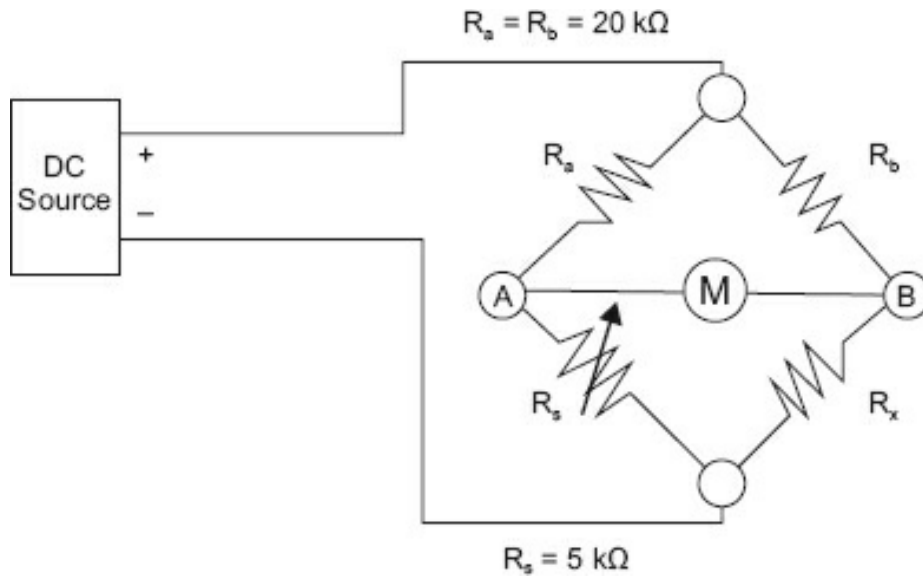

Figure R4-1.
- Using Figure R4-1, fill in the blanks for questions A, B, and C.